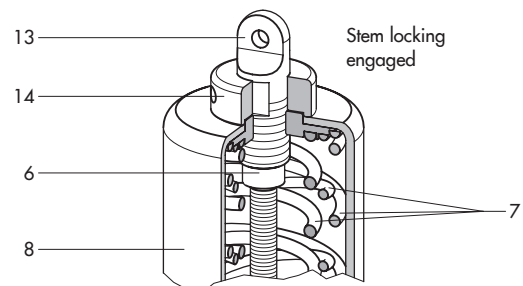

Fig. 4.3: Manual stem locking: Type 2371-11
Type 2371-11 only (see Fig. 4.3): to lock the stem into place, screw the pin (13) into the opening on top of the actuator housing in place of the blanking plug (6.1). The end of the pin comes to rest on the head of the set point screw (6). As the pin is screwed into the valve, it pushes the plug into the open position over the set point screw (6) and upper plug section (5). A mechanical stop (15) prevents it from being screwed in any further, protecting the diaphragm from overstretching or rupturing.